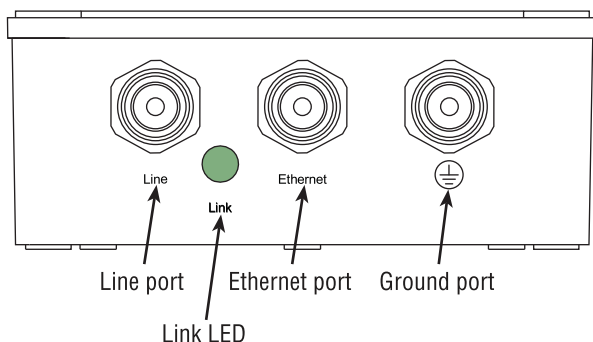

Figure 3. Remote CL1101E/IP67 LED and ports
To install the Remote CL1101E/IP67 Ethernet Extender (see **figure 3**), do the following:
1. Run an un-terminated ground cable through the gland labeled with a ground symbol (see **figure 3** on page 5).